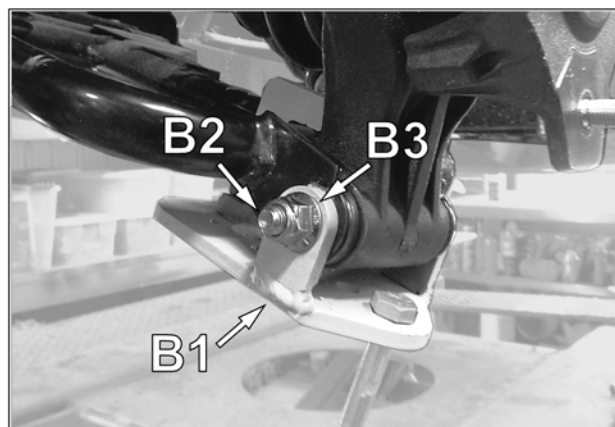

Fig. 8
7. Insert the new M10x110mm bolt (**B2**) through the anchor bracket, lower suspension arm and wheel hub. Secure with nut (**B3**) provided. Tighten bolt to 50 N•m [37 lb•ft] of torque. See Fig. 8